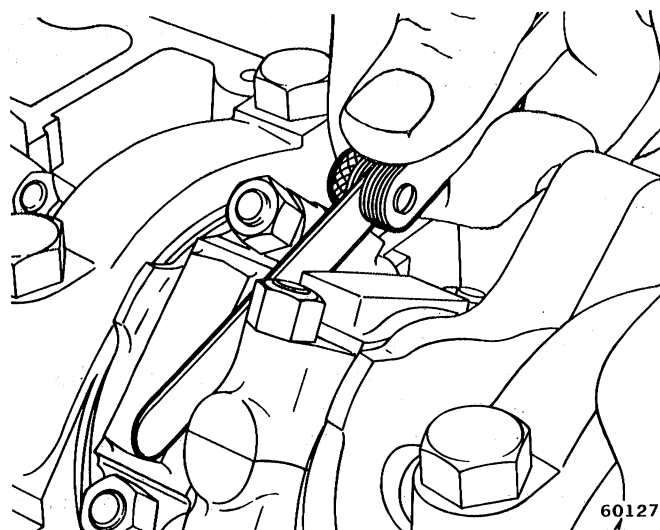

Fig. 1B-131 Connecting Rod Side Clearance Measurement
(1) Rotate crankshaft to position where connecting rod journal is at bottom of stroke.
(2) Insert snug fitting feeler gauge between connecting rods (fig. 1B-131).